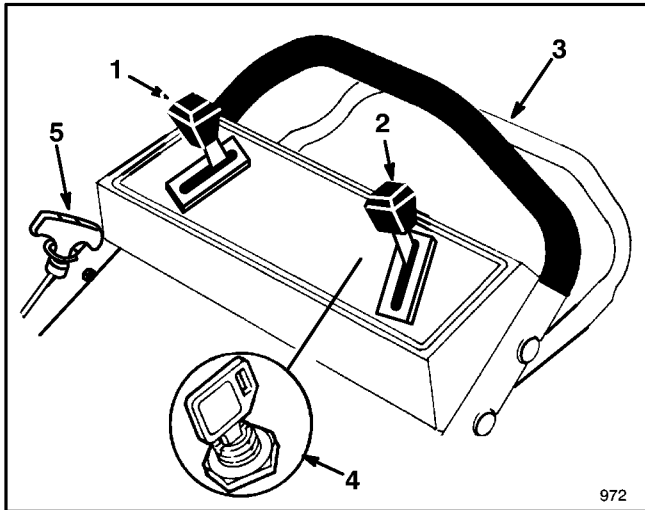

Figure 11
**CONTROLS**—Key switch (electric start model), throttle, ground speed control, self-propelled control bar and fingertip starter are on upper handle (Fig. 11).
when engine begins running. When engine starts, regulate engine speed as desired. If the battery's charge is too weak to start the engine, the engine can be started with the recoil starter (Fig. 11). Allow the engine to warm-up. During warm-up, the equipment can be operated.